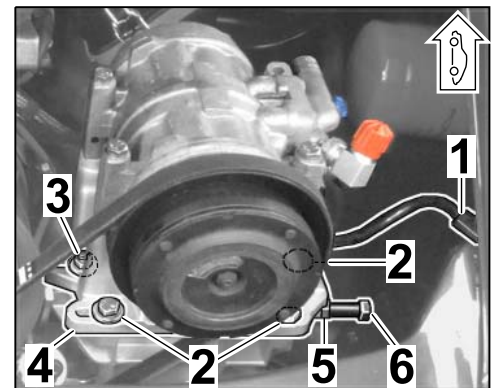

Figure 5
1.2.2 Disconnect electric plug connection for the air-conditioning compressor (⇒ Figure 5).
1.2.3 Loosen three hexagon-head bolts (M8 x 35) and one M8 hexagon nut on the stud on the air-conditioning compressor plate (⇒ Figure 5).
1.2.4 Then **LOOSEN** lock nut (1 x) on the tension screw on the air-conditioning compressor plate and unscrew tension screw (⇒ Figure 5).